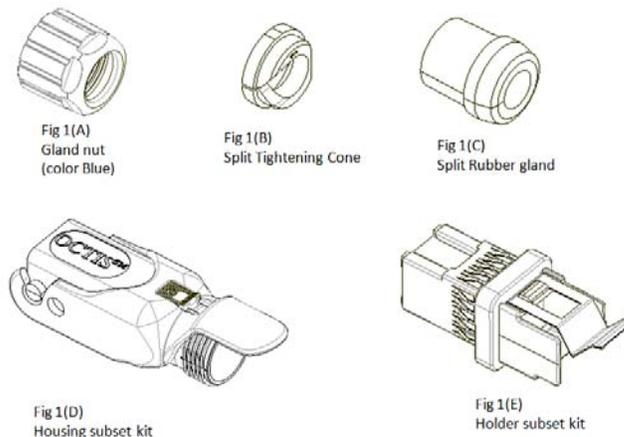

Figure 2A
- a. Parts supplied as a part of the Octis SFP field terminable plug kit , Fig 2A